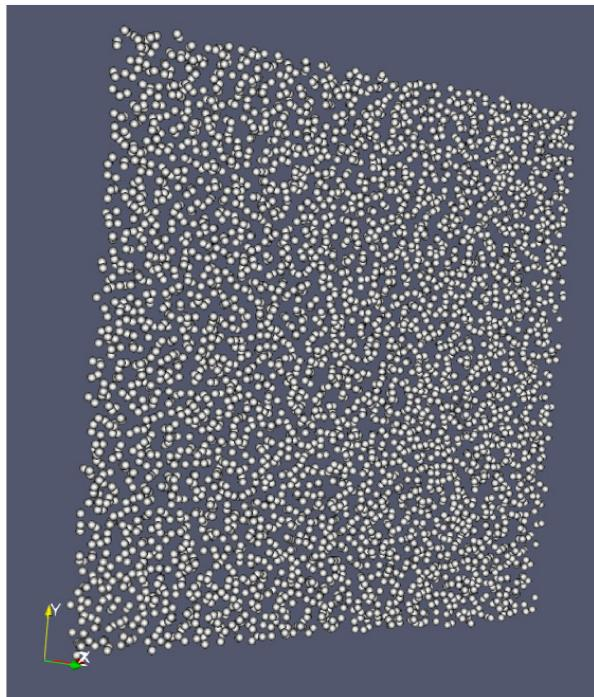

Fig. 16.3: : Particle image generated with ParaView
3. Change the Gaussian Radius if you like. You can scroll through the frames with the VCR-like controls at the top, as shown in Fig. 16.3.